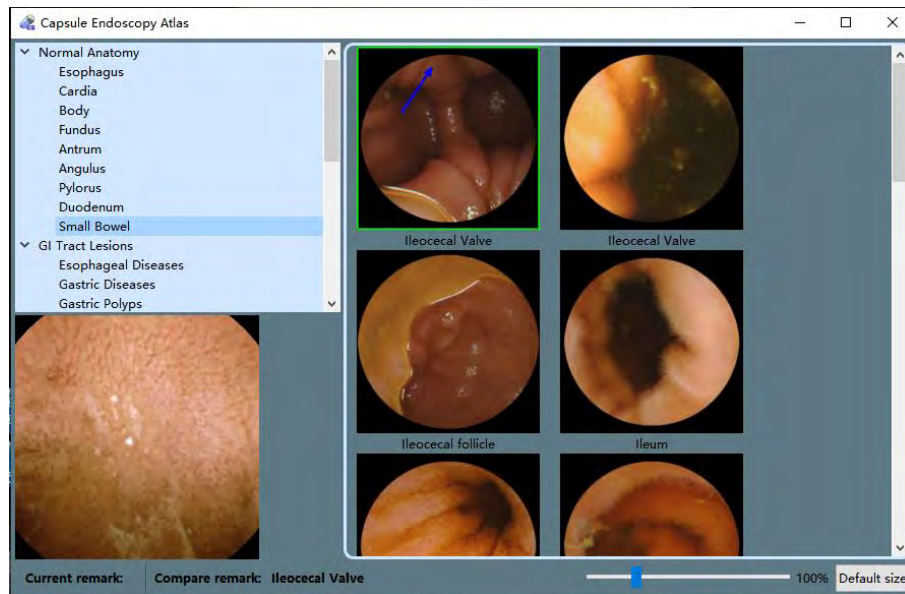

Figure 4-64: Capsule Endoscopy Atlas Interface
1. In the main software interface with an opened video, double click one image in the thumbnail area and select “Tool”  “Capsule endoscopy atlas” to access the capsule endoscope atlas interface (Figure 4-64).